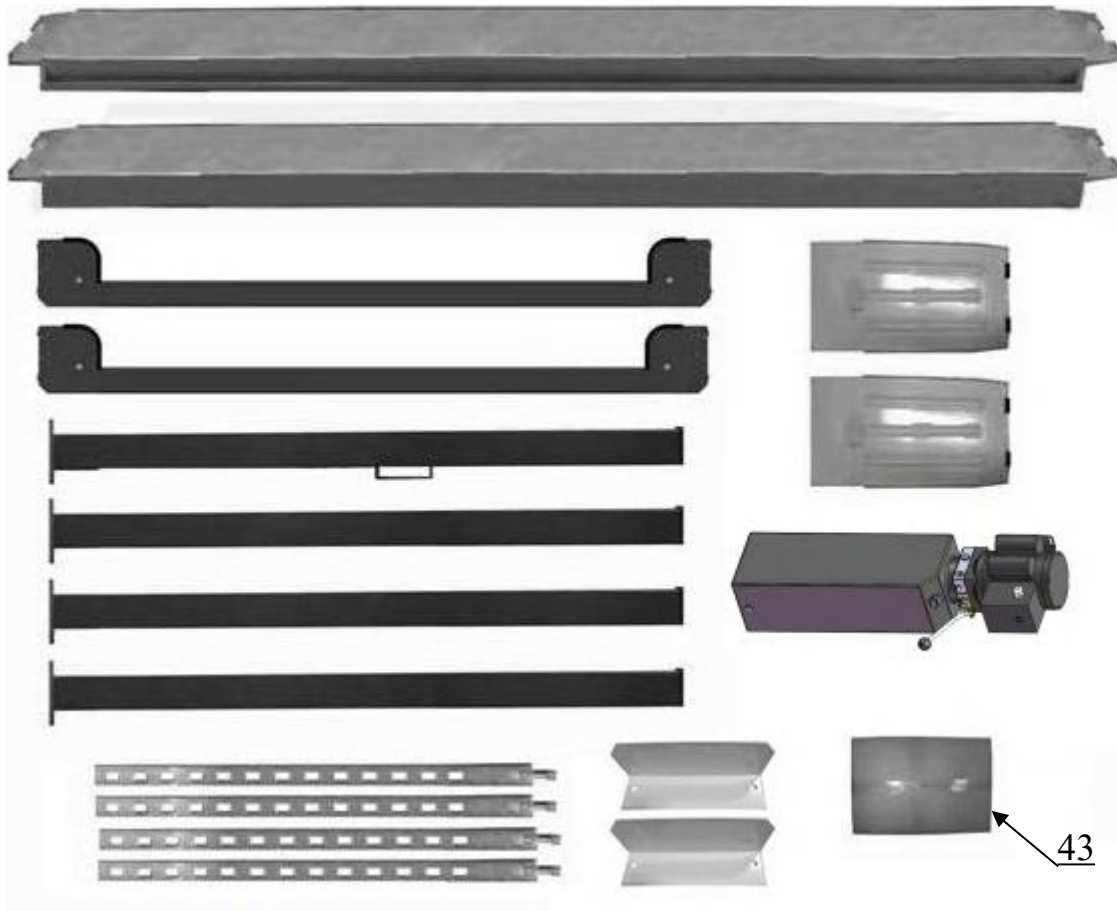

Fig.9
6. Move aside the parts and check the parts according to the shipment parts list (**See Fig. 9**).